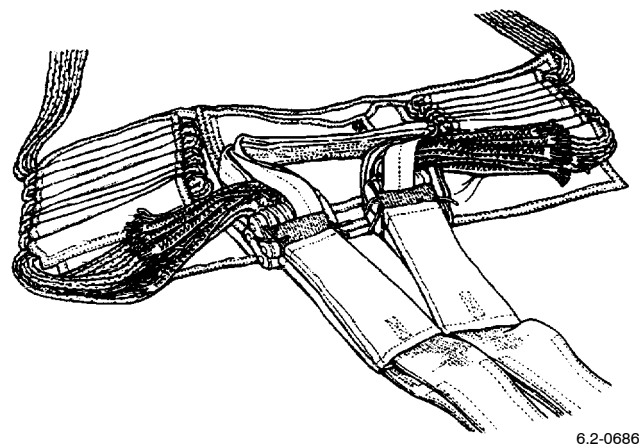

Figure 36. LH and RH Suspension Lines Stowed
h. Repeat the procedure in Subparagraph g, keeping all outboard ends taut for No. 1 RH stowage sleeve, then 2 LH, 2 RH and so on until all sleeves are filled. This method keeps the suspension lines neat on the table and the stowage tray comes up to the deployment sleeve evenly (Figure 36). Suspension lines shall be 40 plus/minus 3-in. from last stow to stowage tray. (QA)